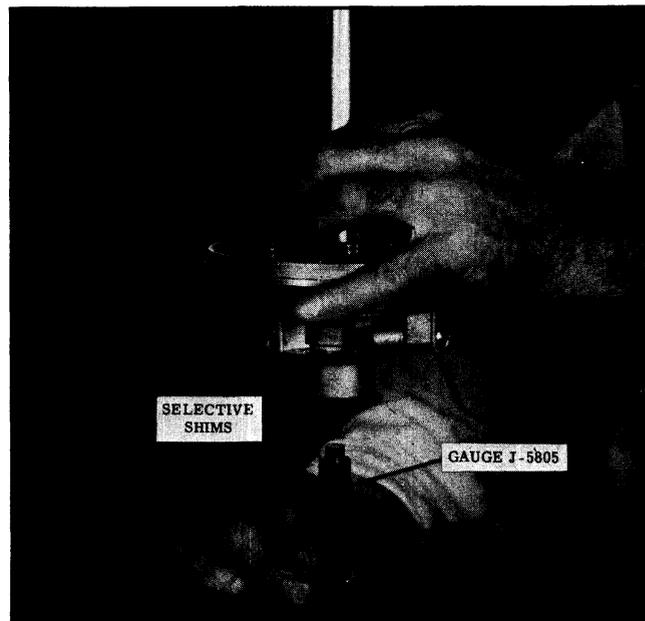

Fig. 7-33 Inserting Gauge J-5805
- a. Place shims and Tool J-5805 and insert gauge into bore of vacuum piston as shown in Fig. 7-33. The body of the gauge will rest on the valve reaction plate, and the pin will extend through the hole in the plate and contact the end of the hydraulic plunger.